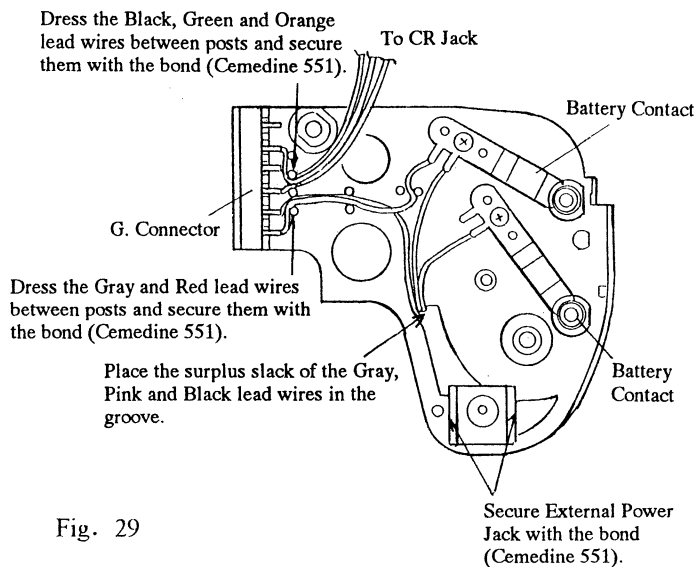

Fig. 29
- Stick the Grip Tape (Upper) (1AU13700) and Grip Tape (Lower) (1AU13800) on the Grip Cover in a way as shown in Fig. 29. Then affix the Grip Cover to the Grip Base and secure the Grip Cover by applying the bond (THREE BOND 1721C) to the inside of both sides of the Grip Cover.